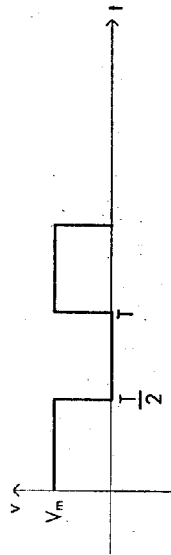

Fig. 2.11
11. Find rms and average value of the waveform shown in Fig. 2.11.